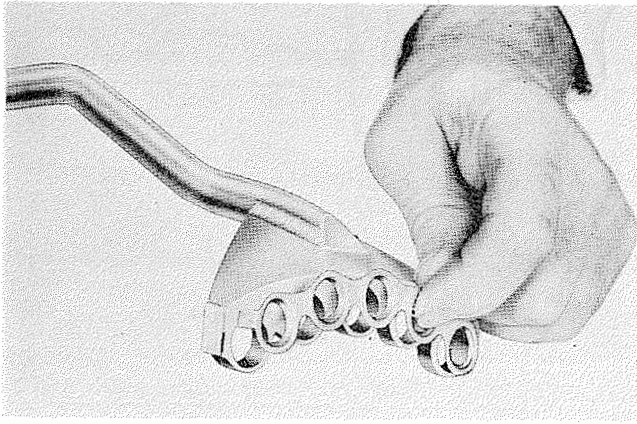

Figure 7-74. Attaching Lock Plate to Installing Tool
a. Use new lock plates at each installation. Install the end tabs of the plate in the slots of installing tool 808124. See figure 7-74.